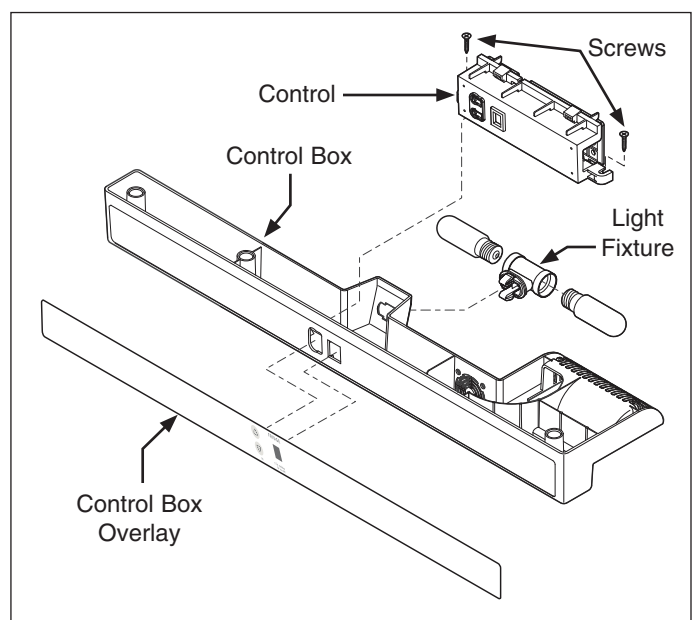

Figure 6-47. Light Fixture and Control Removal
3. Extract the two screws securing the control to the control box. (See Figure 6-47)